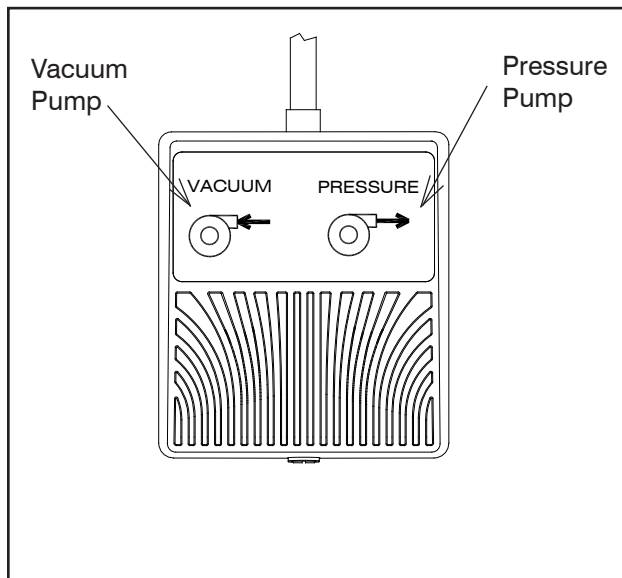

FIGURE 9
4.8.1. The Footswitch may be used to operate the Pressure Pump and Vacuum Pump independently of the Membrane Switch. To activate the Pressure Pump depress the right half of the Footswitch, marked “”. Refer to Figure 9.
4.8.2. To activate the Vacuum Pump depress the left half of the Footswitch marked “”. Refer to Figure 9.